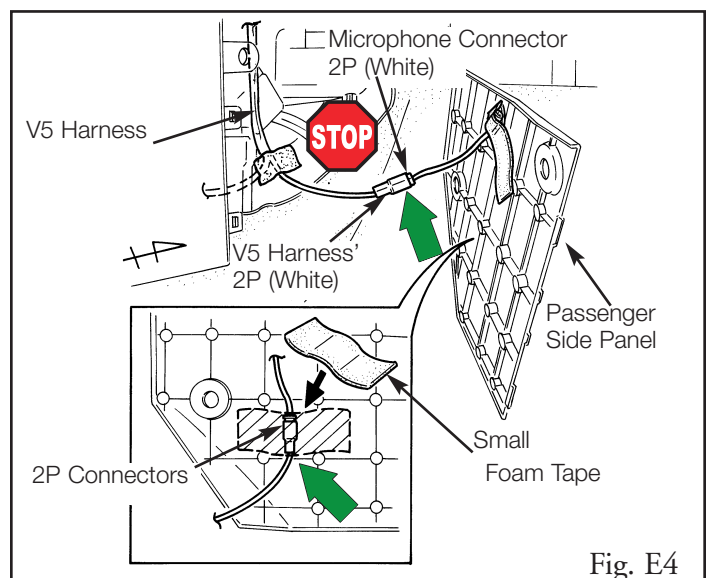

Fig. E4
5. Plug in the V5 harness' white 2P connector to the microphone white 2P connector. (Fig. E4)
→ 6. Secure the 2P connectors to the passenger side panel with a small strip of foam tape. (Fig. E4)